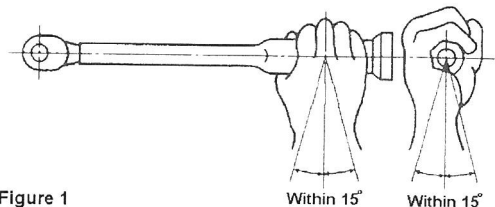

Figure 1
**7. Keep in mind the direction of force. (Figure 1)**